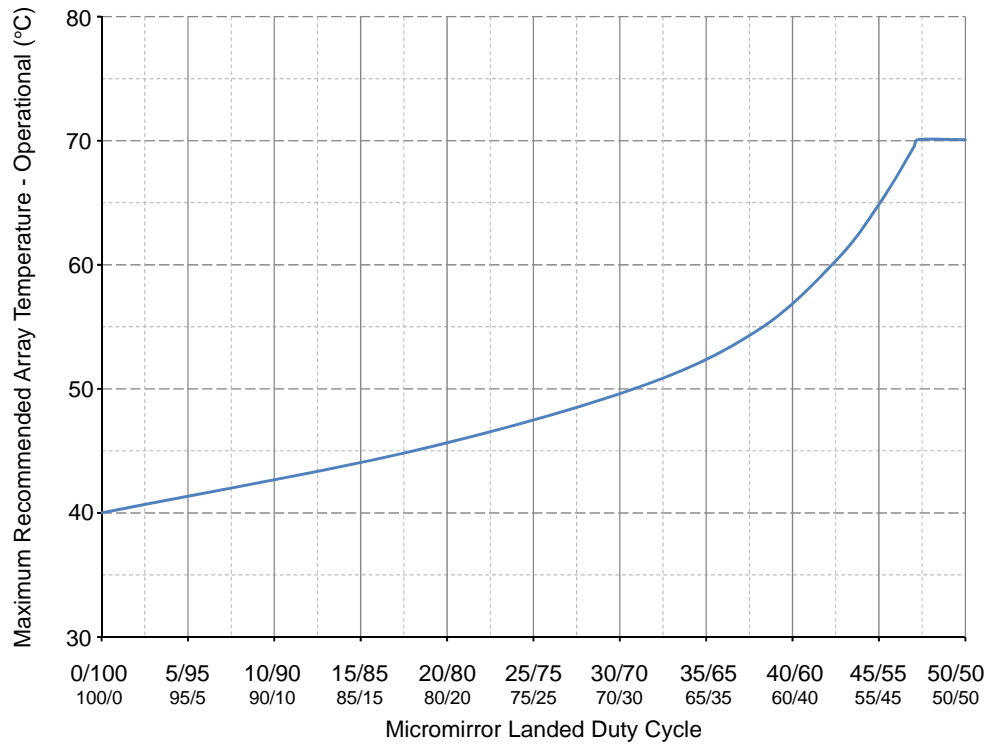

Figure 1. Maximum Recommended Array Temperature - Derating Curve
(13) Per Figure 1, the maximum operational array temperature should be derated based on the micromirror landed duty cycle that the DMD experiences in the end application. See Micromirror Landed-On/Landed-Off Duty Cycle for a definition of micromirror landed duty cycle.
(14) Long-term is defined as the useful life of the device.
(15) Short-term is the total cumulative time over the useful life of the device.